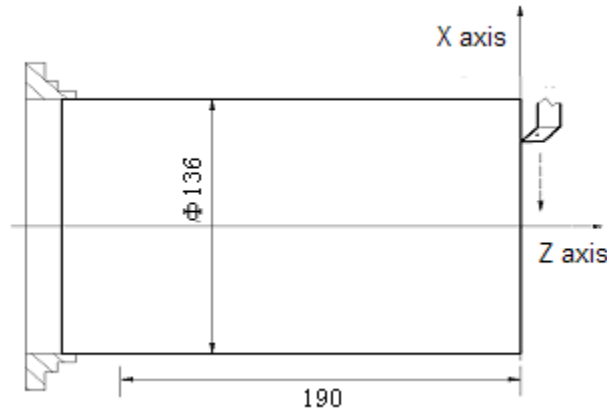

Fig.10-6
- (1) Move the tool into the safe position, execute T0100 in MDI mode and on the program status page, change the tool and cancel the tool offset;
- (2) Move the tool and the tool is cut along the workpiece end face, which is shown as Fig. 10-6;